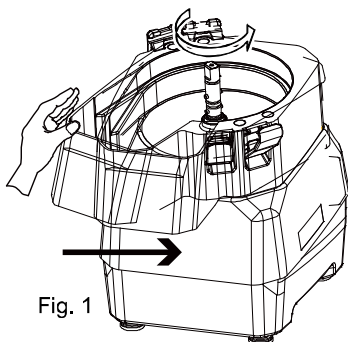

Fig. 1
**4.4.3.1** Place middle base onto bottom base as Figure 1, and use your left hand to move the middle base in arrow direction.